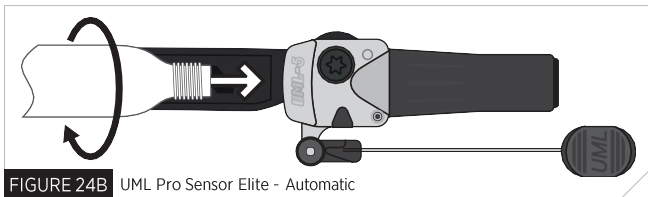

FIGURE 24B UML Pro Sensor Elite - Automatic
6. Screw the cylinder into the inflation mechanism in a clockwise direction (For UML Pro Sensor Elite see Fig 24A; For UML Mk5 Automatic see Fig 24B). Ensure the cylinder is screwed hand tight. The top status indicator will turn green when the cylinder is correctly tightened.